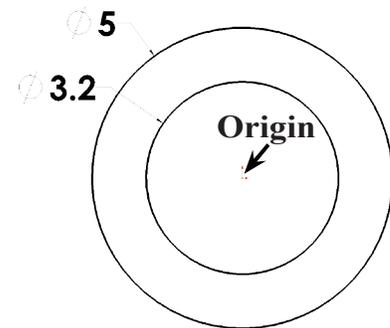

Fig. 2
Step 3. Click **Circle**  (S) on the Sketch toolbar.
Step 4. Sketch two circles starting at the Origin , **Fig. 2**.
Step 5. Click **Smart Dimension**  (S) on the Sketch toolbar.
Step 6. Dimension circle **diameters 3.2 and 5**, **Fig. 2**.